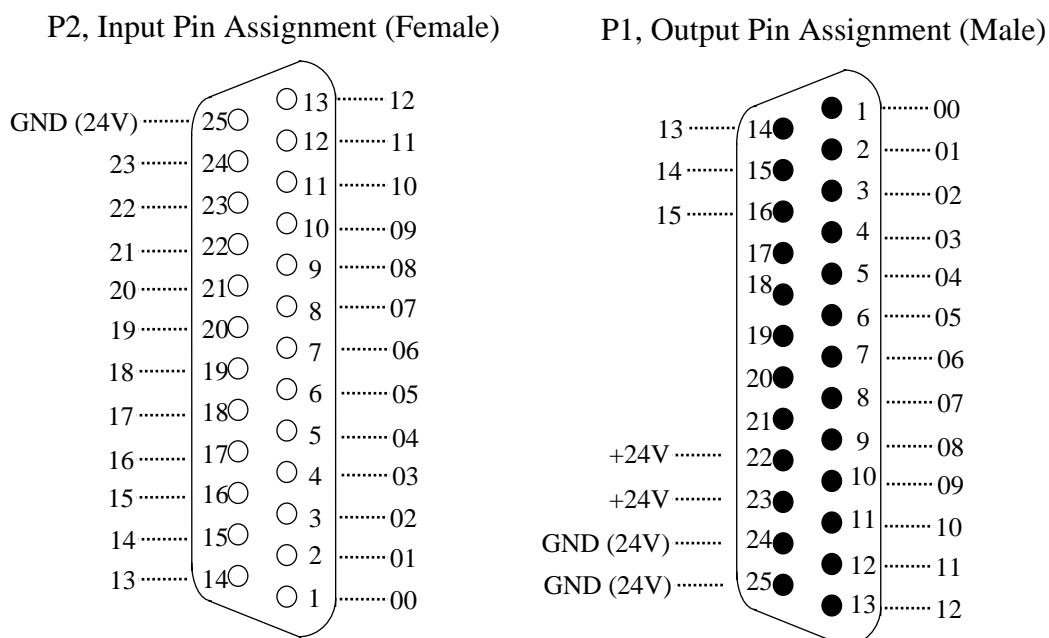

Fig 5-1 I/O Connector Pin Assignment (NPN-type)
The pin assignment of 25-pin connector is shown in Fig 5-1. This assignment is standard in HUST controller and can be applied to those connectors on main board, input board, or output relay board. The connector designation on H2N controller is shown in Table 5-1. Note that the input connector has 24 I-points while output connector has 16 O-points.
1. Connect directly to DB25LF connector in the controller shown in Fig 5-1.
1. Connect directly to DB25LM connector in the controller shown in Fig 5-1.